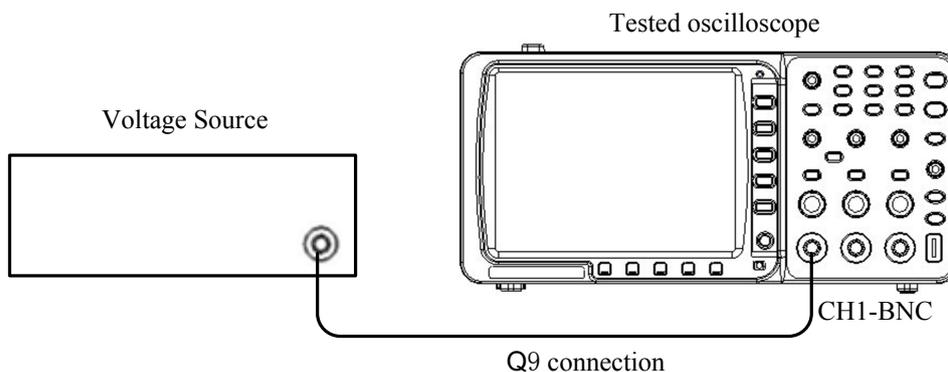

Figure 9: Connection of maximum input voltage testing
A. As shown by Figure 9 connected: